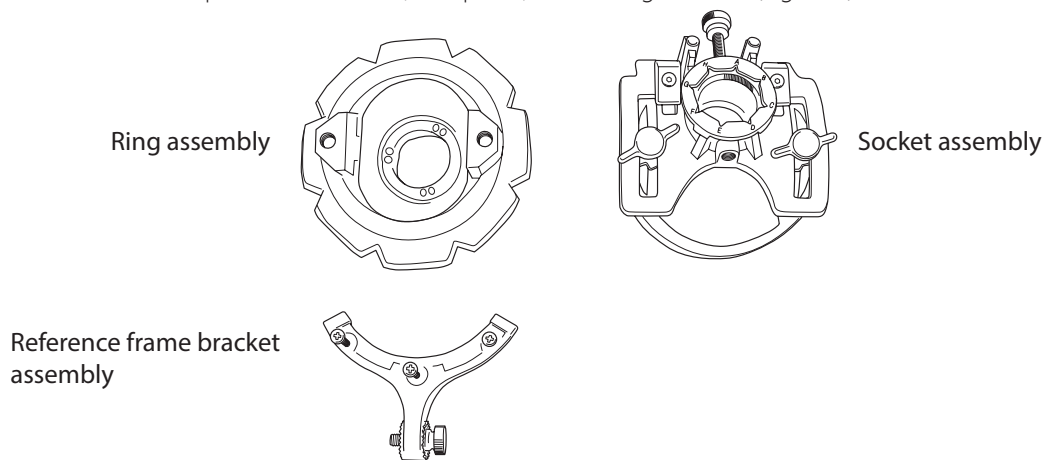

Figure 7. Disassemble the Nexframe tower into the three assemblies.
2. Place the Nexframe component assemblies, if required, on the surgical table (Figure 7).